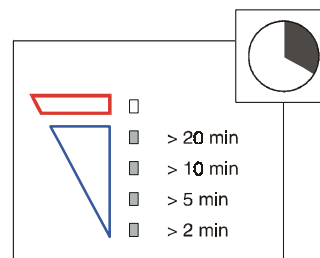

fig. 7
**Runtime indication (fig. 7)**